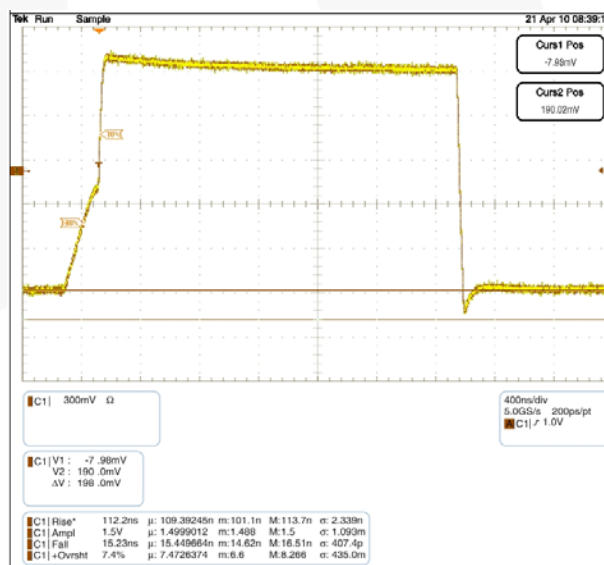

Figure 5. FXMA2102 Waveform C: 600 pF, R_{PU}: 2.2 K
is a slave on the B port, the Npassgates act as a low resistive short between both ports until either of the port's V_{CC}/2 thresholds are reached. After the RC time constant has reached the V_{CC}/2 threshold of either port, the port's edge detector triggers both dynamic drivers to drive their respective ports in the LOW-to-HIGH (LH) direction, accelerating the rising edge. The resulting rise time resembles the scope shot in Figure 5. Effectively, two distinct slew rates appear in rise time. The first slew rate (slower) is the RC time constant of the bus. The second slew rate (much faster) is the dynamic driver accelerating the edge.
The FXMA2102 dynamic drivers have enough current sourcing capability to drive a 400 pF capacitive bus. This is beneficial for instances when an I²C buffer / repeater is required. The I²C specification stipulates a maximum bus capacitance of 400 pF. If an I²C segment exceeds 400 pF, an I²C buffer / repeater is required to split the segment into two segments, each of which is less than 400 pF. Figure 5 is a scope shot of an FXMA2102 driving a lumped load of 600 pF. Notice the (30% - 70%) rise time is only 112 ns ($R_{PU} = 2.2 K$). This is well below the maximum edge rate of 300 ns. Not only does the FXMA2102 drive 400 pF, but it also provides excellent headroom below the I²C specification maximum edge rate of 300 ns.